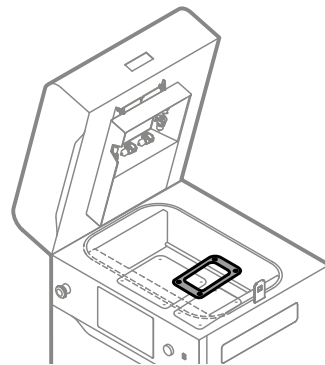

Fig. 12.23 Remove the Print Bed cover.
16. Remove the Print Bed cover. You can use the metal spatula (from Dedicated Powder Tools) to pry up and remove the cover (fig. 12.23).